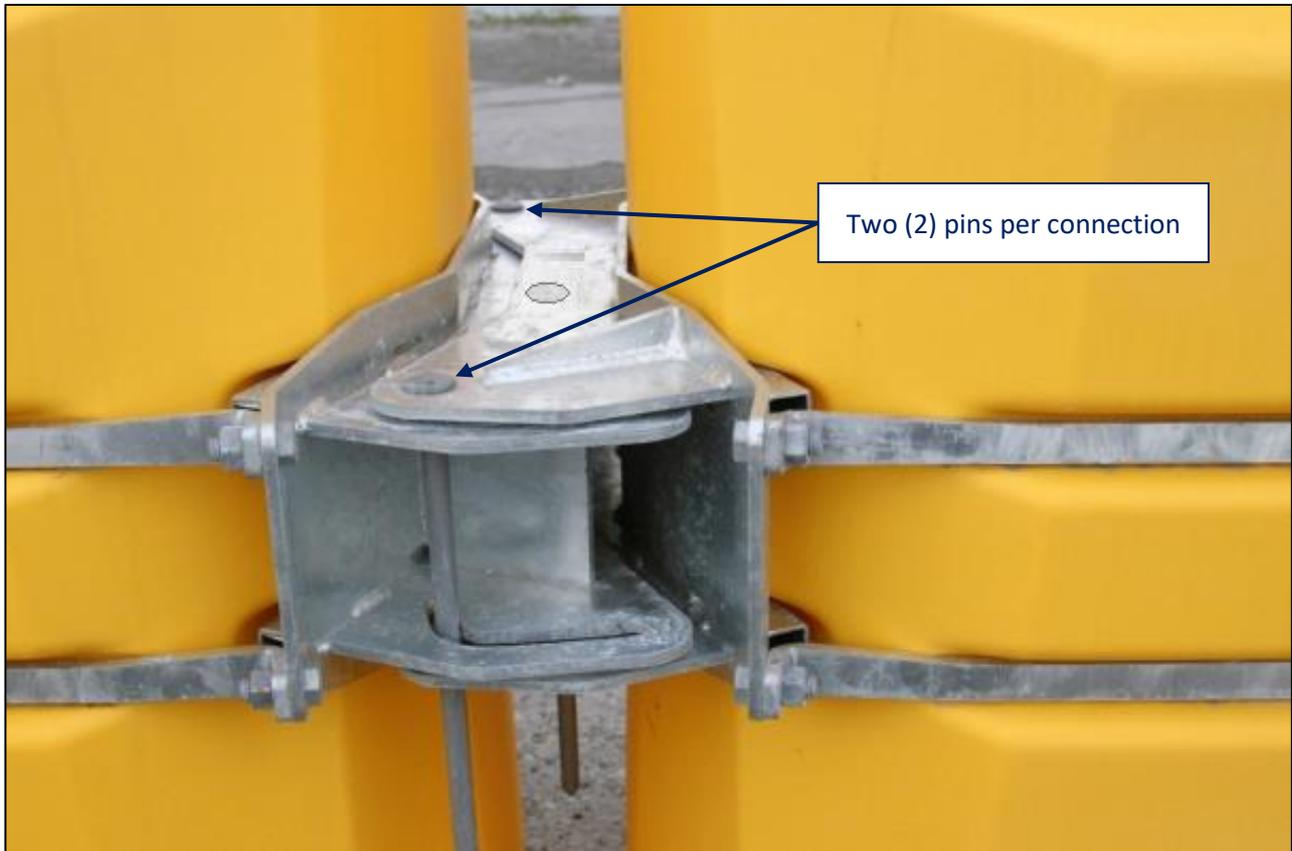

Figure 14: Insertion of Connection Pins
Connect the rear absorption cell to the transition, then each subsequent cell to each other with two (2) pins per connection as shown in Figure 14. Ensure that the centre of all absorption cells are aligned.